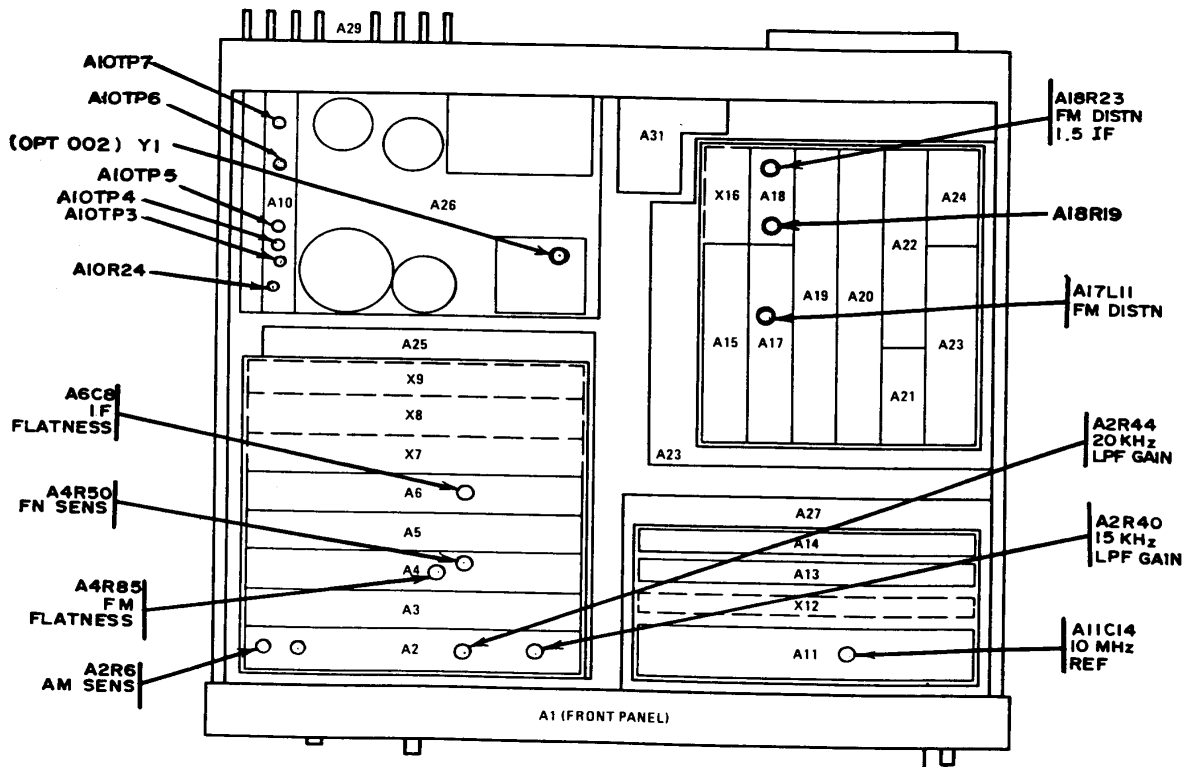

Figure 1. Modulation analyzer - top view.
(1) Connect frequency difference meter signal input to TI INT 10 MHz OUT or rear panel time base 10 MHz OUTPUT (OPTION 002).
(2) Connect time/frequency workstation output to frequency difference meter reference input. If TI frequency stability is not $>1 \times 10^{-9}$, perform **b** below.
b. Adjustments. Adjust Y1 COARSE and FINE controls (fig. 1) for a frequency stability of $>1 \times 10^{-9}$.
(1) Connect TI CALIBRATION OUTPUT to TI INPUT.
(2) Press MEASUREMENT AM and CALIBRATION pushbuttons and allow time for at least two readings. TI indication will be between 99 and 101 percent.
(3) Press **2.2 SPCL** pushbuttons and allow time for at least two readings. If TI does not indicate between 99 and 101 percent, perform **b** below. Record indication for use in paragraph 13.
b. Adjustments. Adjust A2R6 AM SENS (fig. 1) for 100 percent indication on TI display (R).
- (8) Press **MEASUREMENT FREQ** pushbutton.
- (9) Adjust calibration fixture frequency to 100 MHz.
- (10) Position TI controls as listed in (a) through (d) below:
- (11) Adjust calibrator output for a 20 kHz average deviation as displayed on TI.
- (12) Press **TI RATIO %** pushbutton.
- (13) Move connection to **FM ÷ 32 OUTPUT** without disturbing calibration fixture controls. Multiply displayed ratio by value recorded in (2) above. Result will be between 12.35 and 12.65 percent REL.
b. Adjustments. Adjust A4R50 FM SENS (fig. 1) for a 100 percent indication on TI display (R).